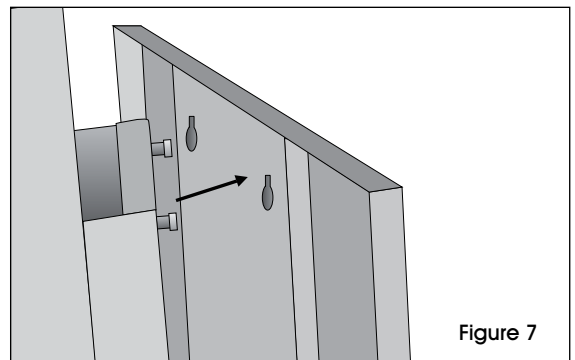

Figure 7
2. Align the top two bolts with slotted bolt holes at the top of the carriage and hang in place. (See Figure 7)